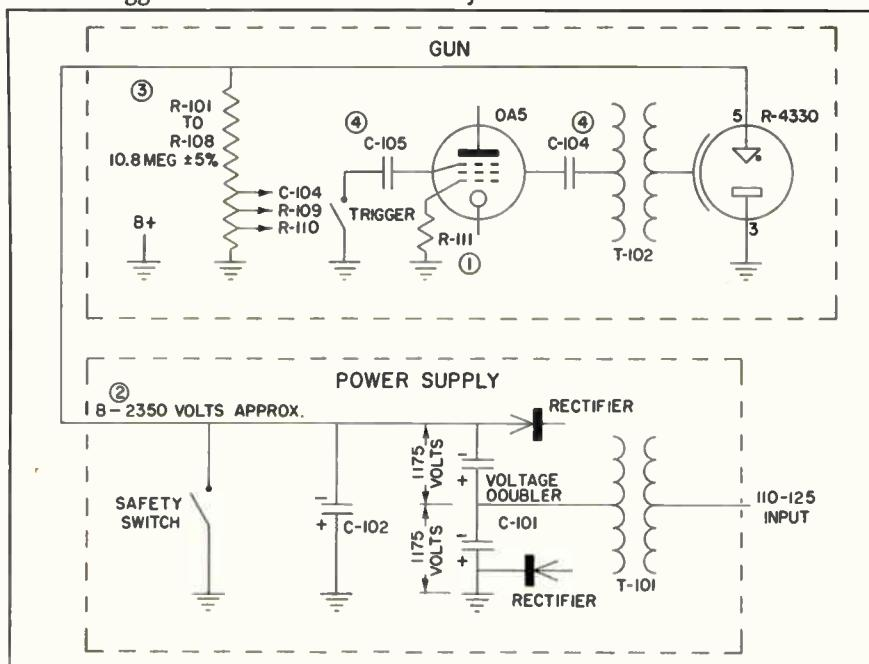

Figure 2. A partial single line schematic of a photoflash unit to aid in trouble shooting. Circled numbers indicate trouble points mentioned in the article.
After all precautions have been taken with the capacitor, a voltage reading should be taken of the output. The meter should be switched to its high range and connected to the circuit before the supply is turned on, bearing in mind that all Wabash electroflash equipment use a positive ground. Before turning the power supply on, set it in an upright position so as to disengage the shorting switch contact. The voltage reading obtained should be approximately 2350 volts, in Figure 2 (2), at a normal line voltage of 117 volts a.c. input in units using either Sylvania Type R-4330 or R-4340. Should the output reading obtained be much less than this figure, normal power supply service procedure can be used in checking out the components.
The first check should be a resistance reading of the voltage divider network made up of resistors R-101 to R-108 in Figure 2 (3). This can best be done by measuring between pins 3 and 5 of the flash tube socket or between pin 5 and the exposed shield of the high voltage cable. The reading obtained should be approximately 10.8 megohms, plus or minus five per cent. If the variation exceeds five per cent, check each resistor in the divider individually and replace if necessary. Special attention should be given to the value of R-101 to see that it is within its five per cent tolerance; intermittent operation may result if it is not. The unit will flash automatically without being triggered or will not flash at all, depending on whether R-101 is excessively above or below its specified tolerance. Should the divider resistors check okay, a check should then be made of the values of the trigger tube supply resistors, R-109, R-110 and R-111. Again, if any exceed their tolerance they should be replaced.
set of fully charged batteries in good condition. This figure is based on factory tests, flashing the unit every consecutive 20 seconds. However, flashing at longer intervals will reduce the number of available flashes proportionately. Certain conditions in the gun will alter those figures. A gun in good electrical condition will fire at a minimum voltage of 1750 volts. If the trigger supply voltages were not correct or the oscillatory trigger capacitors had over the nominal amount of leakage, the minimum flashing voltage would increase. Therefore, even if the batteries were in a fully charged condition, fewer flashes would be obtained, sometimes reducing to almost one-half the normal number. One of the most common causes of this reduced flashing voltage range is the condition of the capacitors C-104 and C-105 in Figure 2 (4). If a capacitance tester is not available, we suggest the replacement of these capacitors rather than relying on the familiar ohmmeter "kick" test. Ordinarily not much trouble should be encountered with the triggering transformer (T-102). Excessive moisture will affect its operation; therefore, the rubber weather-proofing band should always be replaced around the top of the gun and flash tube. The primary of the trigger transformer will